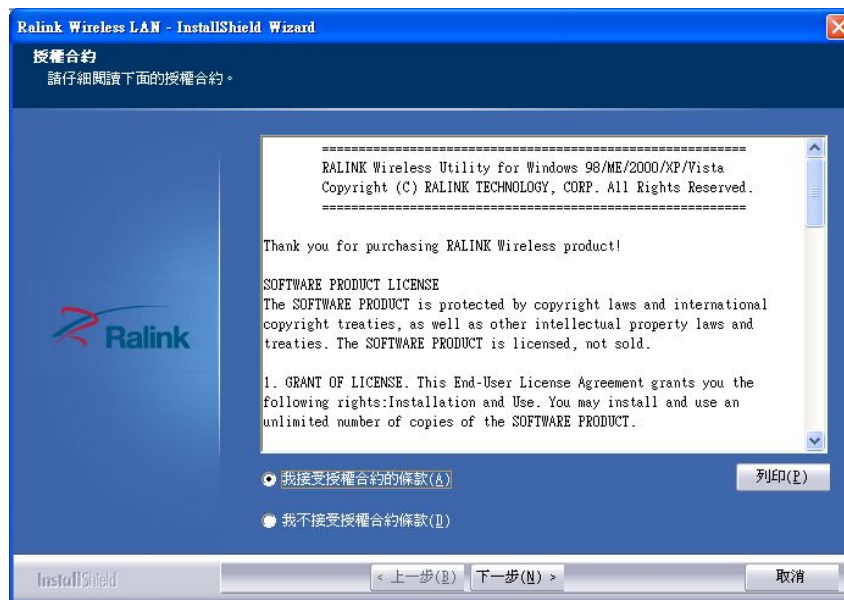

Figure 6-29: Wireless Driver License Agreement
- Step 3:** The license agreement in **Figure 6-29** appears.